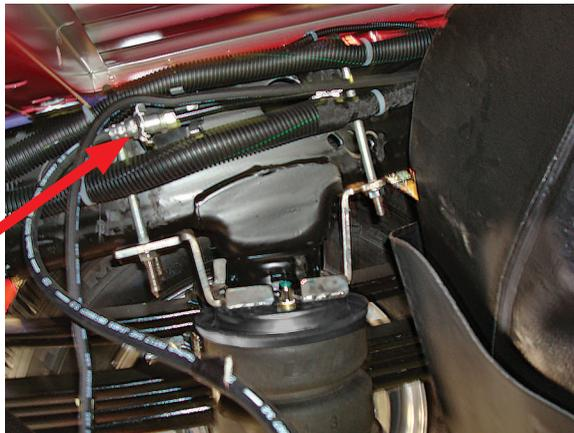

fig. 8
1. Insert two U-bolts (H) onto the top of the frame and through the upper bracket mounting holes (Fig. 8).
THE DRIVER'S SIDE HAS A BRAKE LINE AND A WIRING HARNESS RUNNING ALONG THE INSIDE OF THE FRAME. MAKE SURE THE U-BOLT IS BETWEEN THESE ITEMS AND THE FRAME (DO NOT PINCH THESE ITEMS) (FIG. 8).